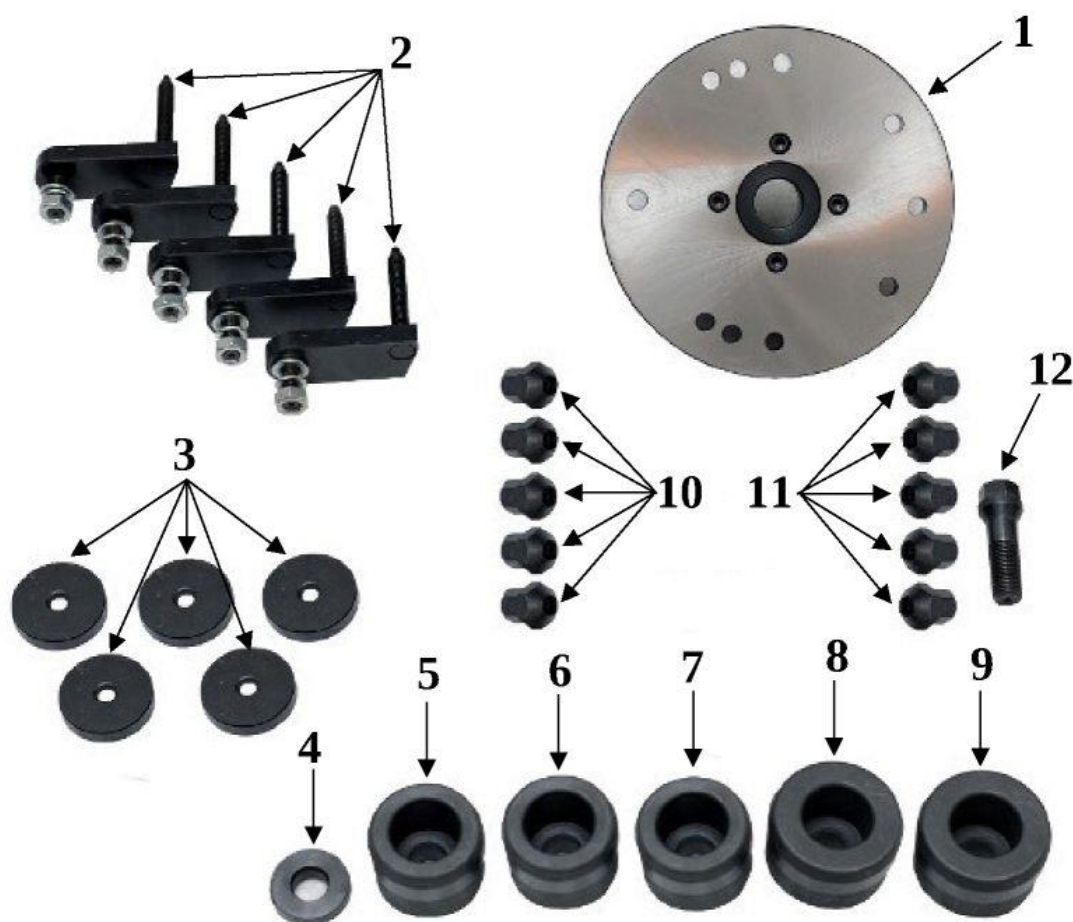

Fig. 6: Spike holder elements:
A spike holder shown and described in Fig. 6 is used for mounting wheels without a central hole. It can be fitted with wheels with 3, 4, 5 and 6 holes.
- Check, depending on the balanced wheel, which of the centering sleeves (5 ÷ 9 in Fig. 6) fits the rim hole best (if none is suitable or the rim does not have a hole on the inside, use a washer under fastening screw 4 in figure 6).
- Place the disc with the appropriate adapter 1 from figure 6 on the spindle and tighten it with the screw 12 from figure 6 with a sleeve or washer (figure 13a).
- Depending on the rim holes number screw the spikes (2 in figure 6) to the disc according to the numbers on its back. For example, if the rim has 5 holes all the spikes should be screwed to the holes with the number 5 on the back of the disc (figure 13b), if the rim has 6 holes, use 3 pins, screw to the holes with the number 3 and put them every other hole in the rim. The spikes should be tightened using the attached nuts and washers in such a way that they do not unscrew but while you can turn the pin tightly (first a flat washer, then a springy one and then the nut). If there is enough space place the pin plates with the recess facing outwards and then position them so that the wheel can be inserted into the holder (figure 13c).
- To screw the wheel to the holder (figure 13d) use a conical nut (10 in figure 6) or a spherical nut (11 in figure 6) depending on the nuts/bolts which attach the wheel to the vehicle.